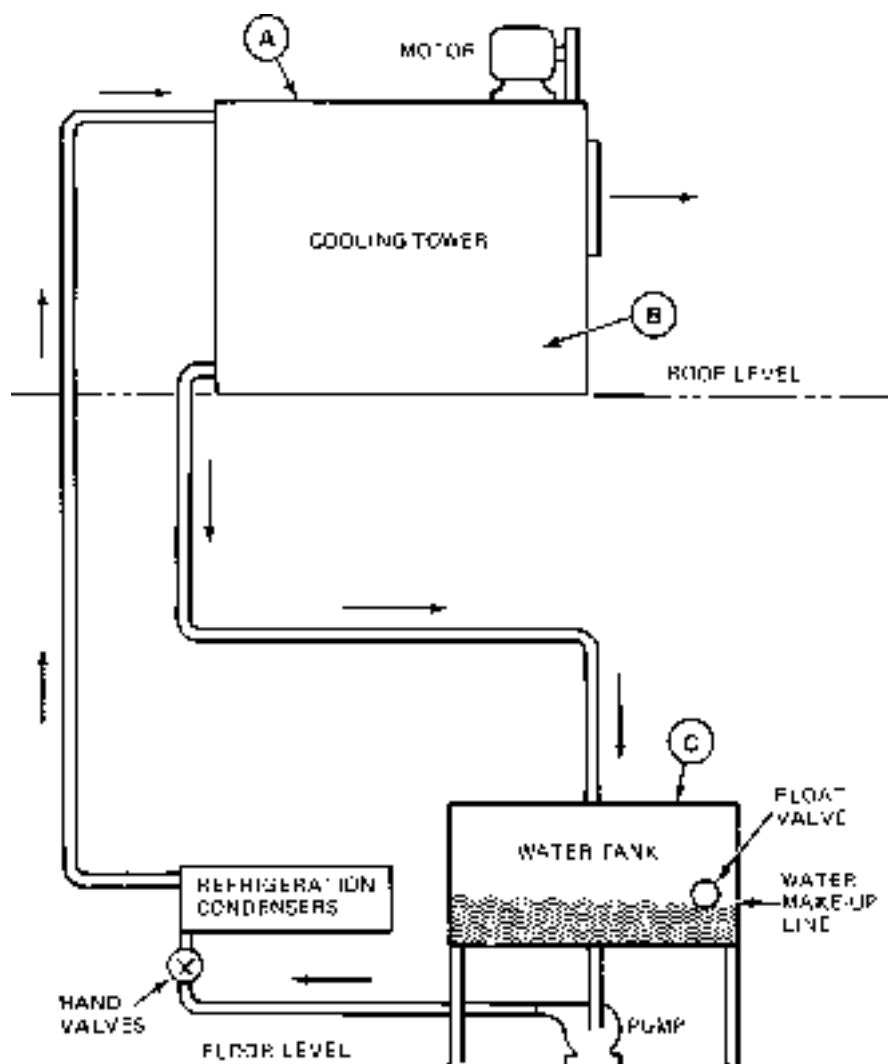

FIGURE 8.5 Forced- and natural-draft towers. (A) Water tower distribution plate, (B) sump, (C) water tank. (Virginia Chemicals)
2. Close the bleed line and refill the sump with fresh water to the lowest level at which the circulating pump will operate (see Figure 8.5).
For solid scale remover, use 5 pounds per 10 gallons of water. For regular liquid scale remover, use 1 gallon per 15 gallons of water. For concentrated liquid scale remover, use 1 gallon per 20 gallons of water (refer to Figure 8.5). The scale removers can be introduced at the water-tower distribution plate (A), the sump (B), or the water tank (C). Convenience is the keyword here. The preferred addition point is directly into the pump suction area.